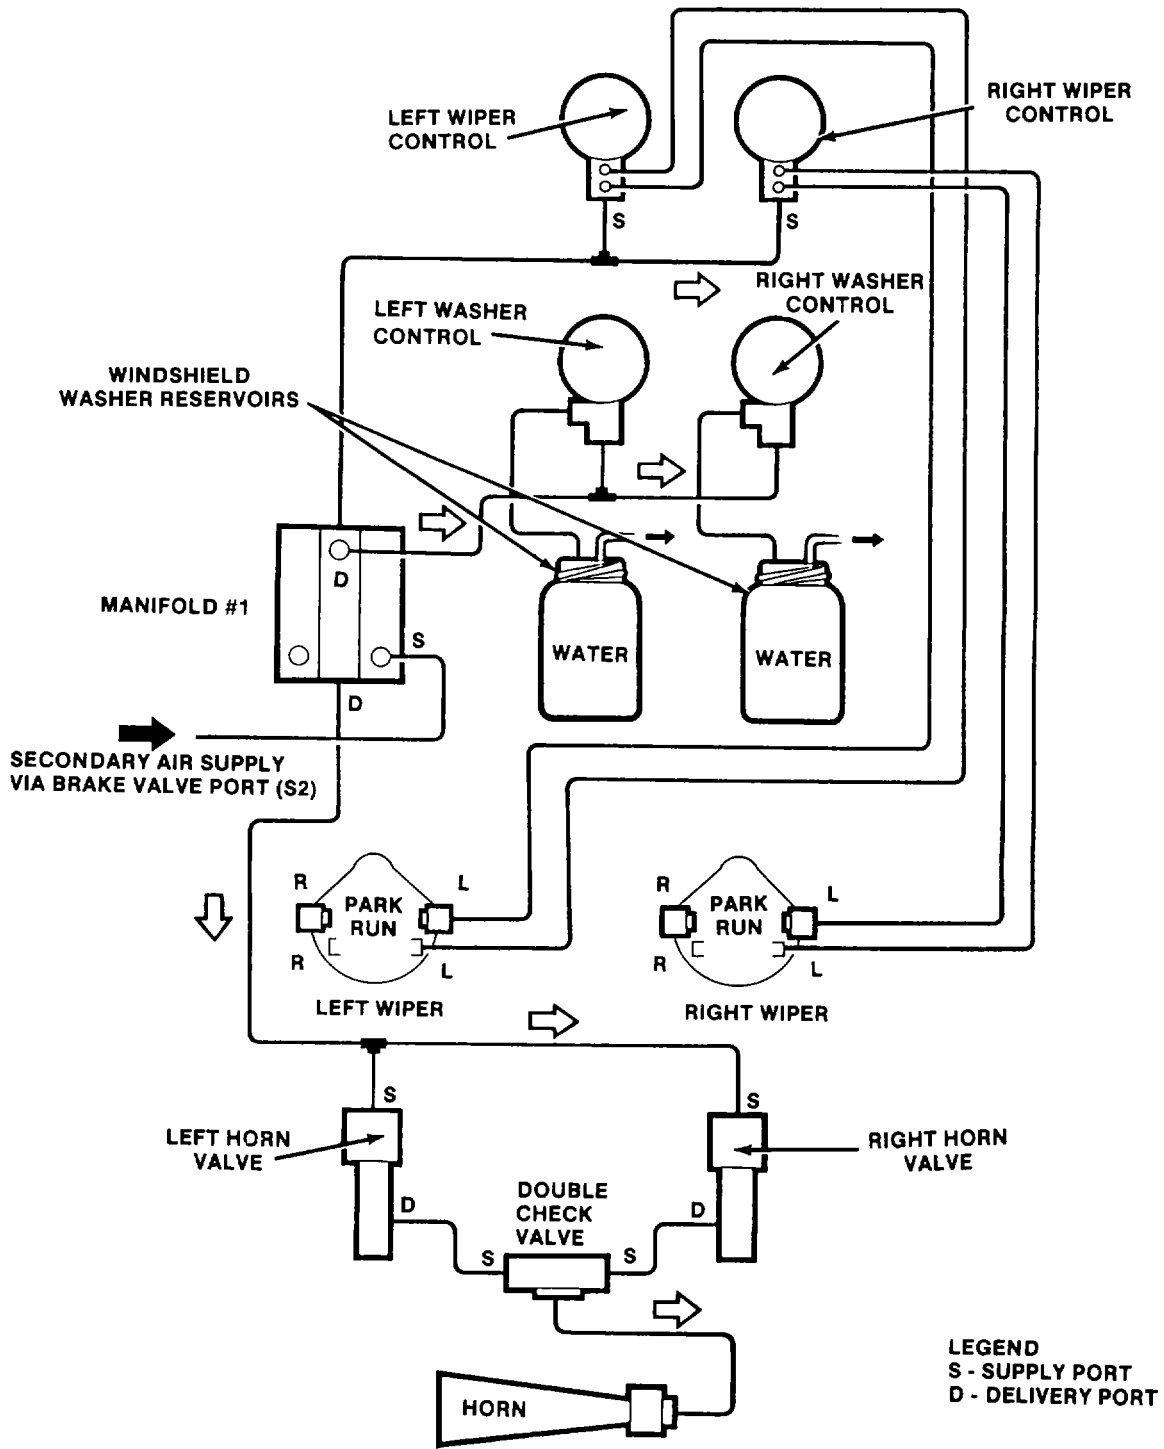

Figure 1-35. Driving Accessory Air System
b. **Driving Accessory Air System.** Air supply for operation of the windshield wipers, washer jets, and air horn is provided from the secondary reservoir via manifold # 1. Air flow to the individual components is shown in figure 1-35.